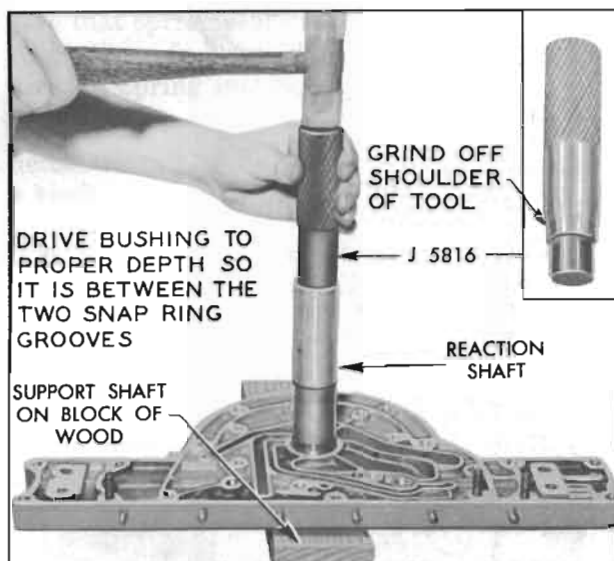

Figure 5-76—Installing Input Shaft Bushing
1. If old input shaft bushing was removed, first make sure that inner retaining ring is firmly seated in groove in reaction shaft, then install a new bushing using Installer J 5816. Support shaft on wooden block to avoid damage and drive bushing into place with light hammer until shoulder of tool contacts reaction shaft. See figure 5-76. Install outer retaining ring.